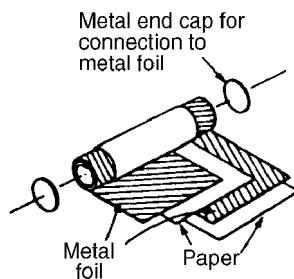

Figure 6.11
- 3 **Paper capacitors.** A typical paper capacitor is shown in Figure 6.11 where the length of the roll corresponds to the capacitance required. The whole is usually impregnated with oil or wax to exclude moisture, and then placed in a plastic or aluminium container for protection. Paper capacitors are made in various working voltages up to about 150 kV and are used where loss is not very important. The maximum value of this type of capacitor is between 500 pF and 10 μF . Disadvantages of paper capacitors include variation in capacitance with temperature change and a shorter service life than most other types of capacitor.